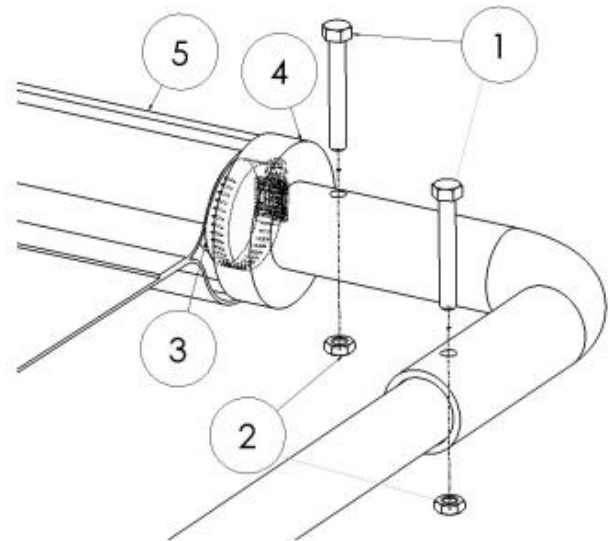

Figure 4.15
Once you have verified that the upper arms will slide into the lower arms and that the cross tube is the correct length, you will need to drill holes into the cross tube and upper arms to connect them to the 90-degree elbows. Mark where the mounting holes on the elbows line up with the upper arms and cross tube. Drill these holes into the upper arms and cross tube using a 5/16" drill bit. Before connecting the 90-degree corners and the cross tube, sandwich the pocket end of the tarp (5) between the rubber tarp centering flanges (4) and their tarp collar clamps (3) on both sides of the cross tube. Secure the 90-degree corners to the upper arms and cross tube using 5/16" x 2-1/4" hex bolts (1) and 5/16" hex nuts (2). (Figure 4.15)